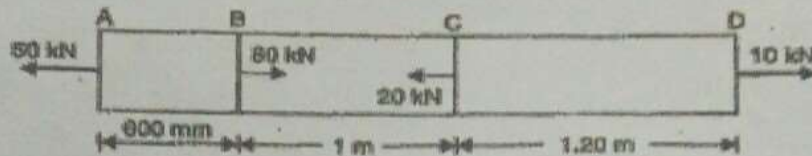

Fig.3.
- a. A brass bar, having cross-sectional area of  $1000 \text{ mm}^2$ , subjected to axial forces as shown in Fig.3. Find the total elongation of the bar, Take  $E = 1.05 \times 10^5 \text{ N/mm}^2$ .